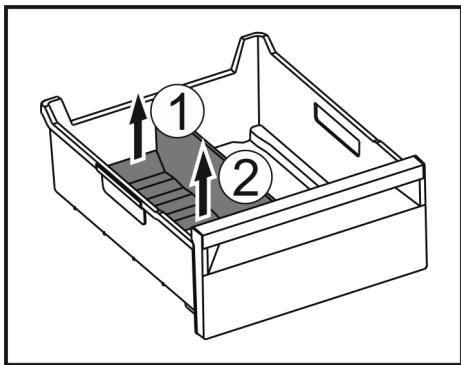

Fig. 155
- ▶ Lift the rear part of the ice compartment divider. *Fig. 155 (1)*
- ▶ Remove the ice compartment divider upwards. *Fig. 155 (2)*